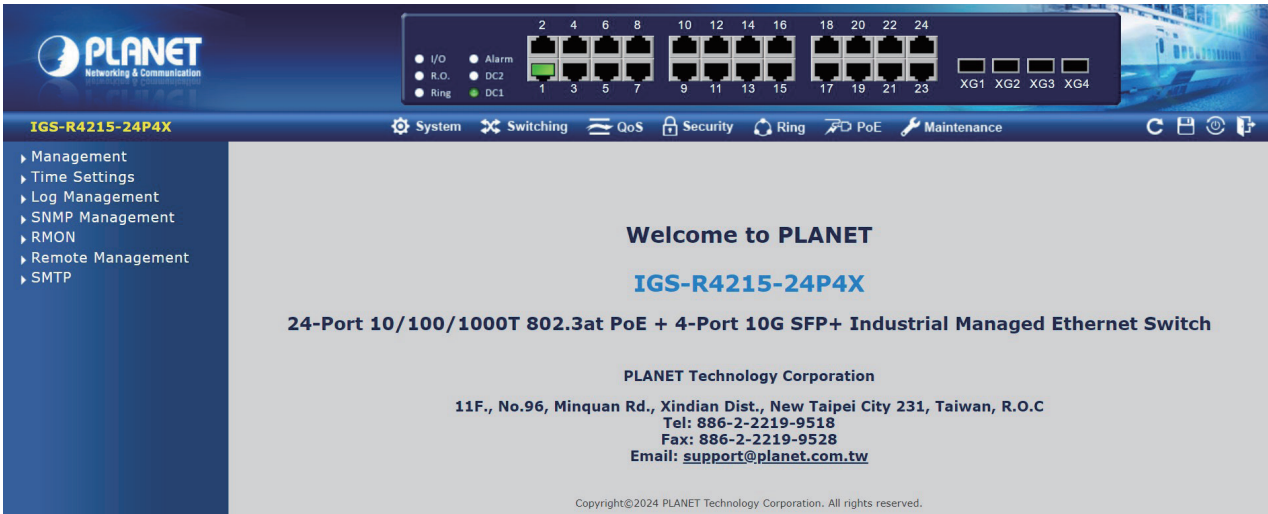

Figure 5-4: Web Main Screen of Industrial Managed Switch
4. Once the password change is complete, re-enter the web interface using your new password and the main screen appears as **Figure 5-4** shows.